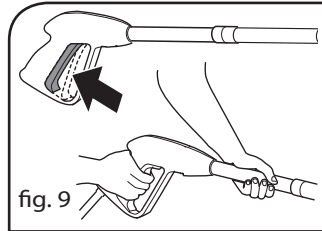

fig. 9
5. Trigger the gun to eliminate trapped air, wait for a steady flow of water to emerge from the spray nozzle (fig. 9).